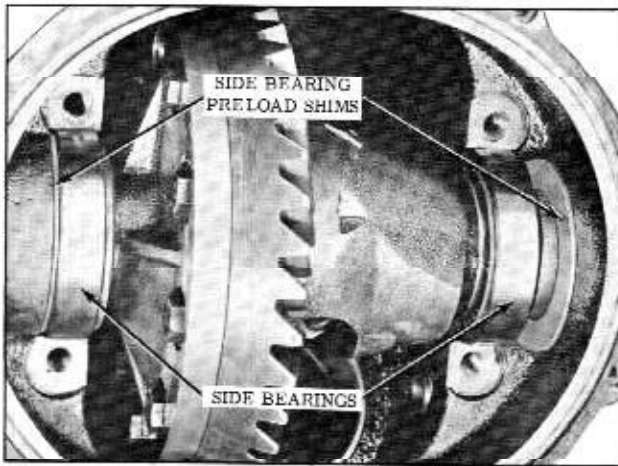

Figure 6-8 Side Bearing Shims
2. Place case assembly in carrier with bearings and left shim in position. (Fig. 6-8)